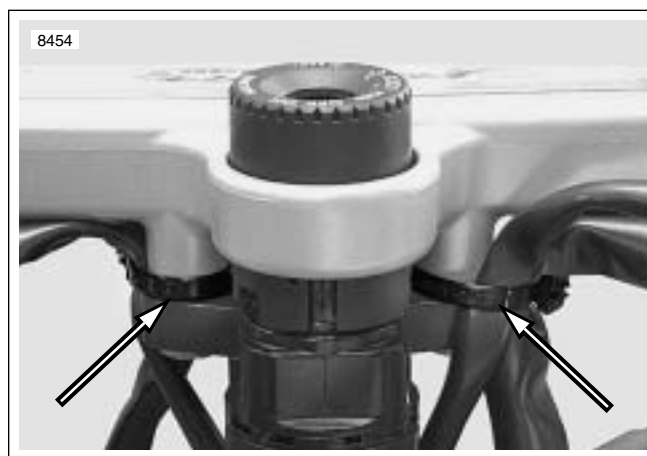
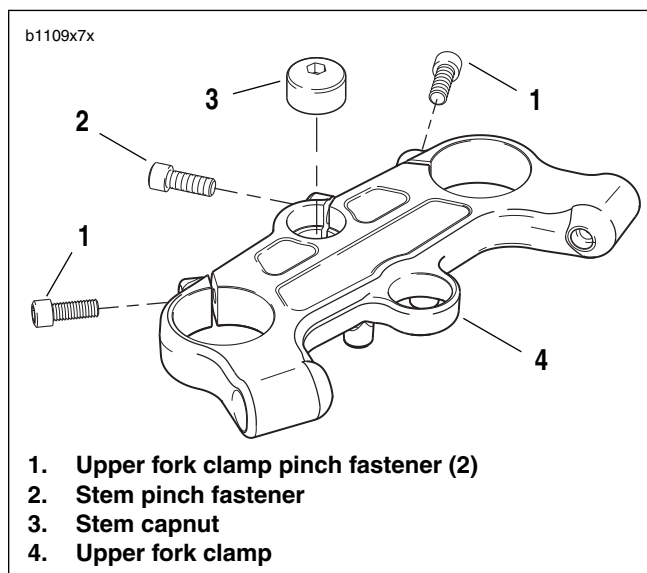
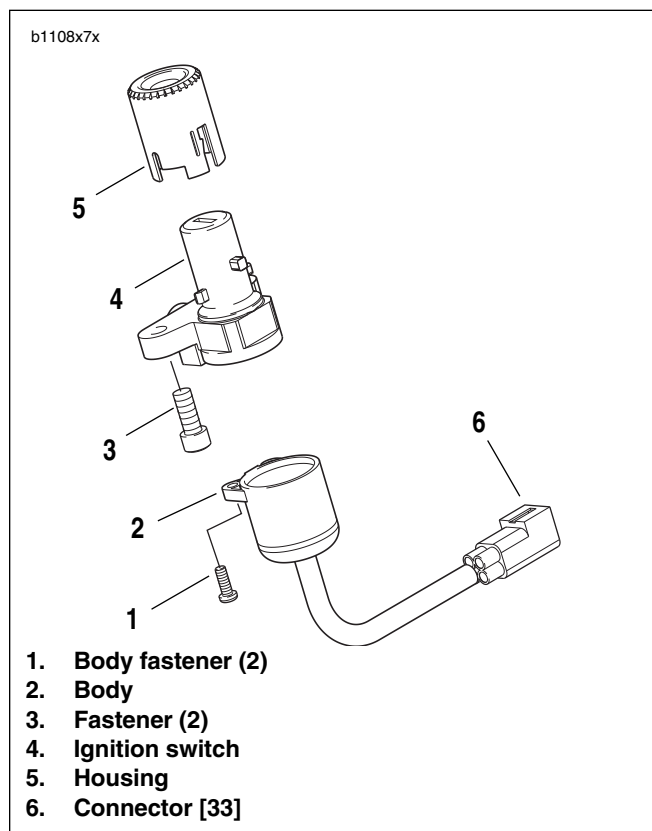
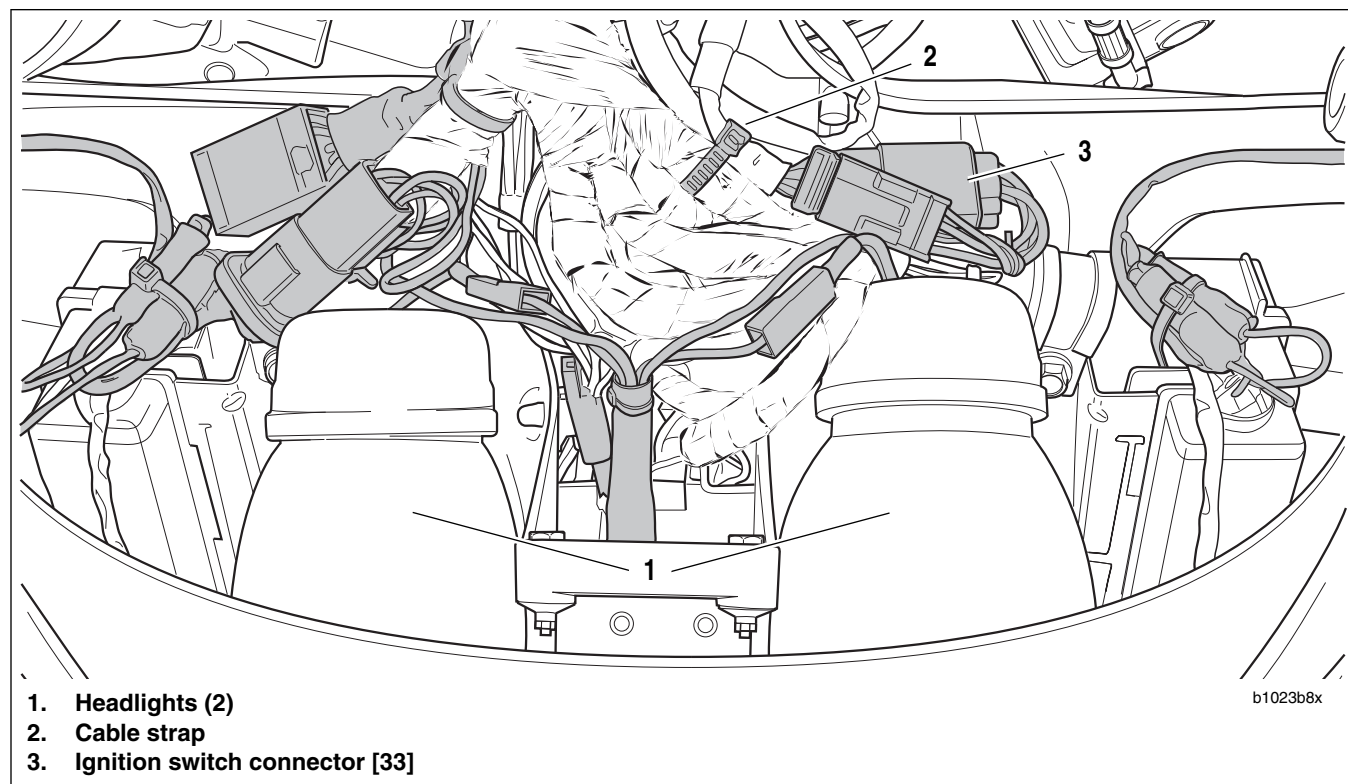

Figure 7-3. Cable Straps On Upper Fork Clamp
Figure 7-4. Upper Fork Clamp
Figure 7-5. Ignition Switch Assembly
Figure 7-6. Ignition Switch Connector (viewed from underneath fairing)
3. See Figure 7-6. Cut cable strap (2) holding ignition switch, fuse block and right handlebar switch wires.
4. Disconnect ignition switch connector [33] (3).
5. See Figure 7-3. Remove cable straps attached to the upper fork clamp.
7. See Figure 7-4. Remove steering stem pinch fastener (2).
8. Remove upper fork clamp pinch fasteners (1).
9. See Figure 7-4. Hold or brace the lower fork clamp and remove steering stem capnut (3).
10. Remove the upper fork clamp (4) from forks.
11. See Figure 7-5. Use Snap-on Tamper-Resistant T45 Torx driver, Part No FTXR45E to remove ignition switch fasteners (3) securing ignition switch (4) to upper fork clamp. Slide ignition switch out of upper fork clamp.
1. See Figure 7-5. Remove ignition switch housing (5) from ignition switch (4) by prying tabs on side of housing
2. Remove ignition switch body fasteners (1). Separate ignition switch body (2) from ignition switch (4).
See Figure 7-5. In next step, be sure wide slot in ignition switch housing (5) is installed over wide boss on ignition switch (4).
1. Push ignition switch housing (5) on to ignition switch (4).
1. See Figure 7-4. From underneath upper triple clamp (4), insert ignition switch assembly into hole. The word "OFF" stamped on the switch housing should face front of vehicle.
2. See Figure 7-5. Attach ignition switch assembly to upper triple clamp using ignition switch fasteners (3). USE LOCTITE 272 (red) on fasteners. Tighten to 18-20 ft-lbs (24.4-27.1 Nm).
3. See Figure 7-4. Install steering stem cap (3). Tighten but do not torque.
- a. Apply LOCTITE 272 to upper fork clamp pinch fasteners (1).
- d. Install steering stem pinch fastener (2) applying LOCTITE 272 and tightening to 23-25 ft-lbs (31-34 Nm).
5. See Figure 7-6. Connect ignition key switch connector (3) to wiring harness. Install cable strap (2) around ignition switch, fuse block and right handlebar switch wires.
7. See Figure 7-3. Attach cable straps to upper fork clamp.